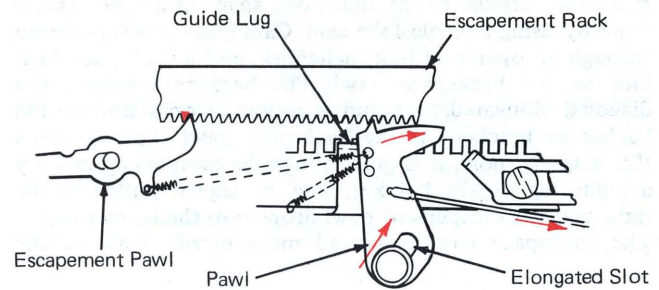

Figure 4 – Backspace Pawl Enters Escapement Rack (Bottom View)
2. Backspace pawl slides along the elongated mounting hole guided into the escapement rack by the guide lug (Figure 4).